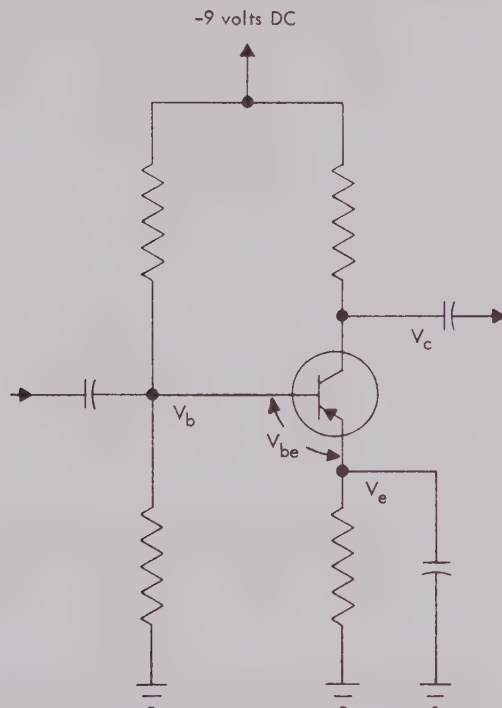

Figure 4-5. Typical Transistor Trouble Shooting Schematic
- a. Check V_c (Figure 4-5). If indication is zero volts, the transistor collector or emitter junction is shorted. If indication is same as collector supply voltage, the emitter or collector junction is open. (Collector of emitter follower, however, will ordinarily be at the supply voltage.)
- b. Check V_{be} (Figure 4-5). If indication is greater than normal, emitter junction is open. If indication is zero volts, the emitter junction is shorted. V_{be} is the difference between base and emitter voltages. ($V_b - V_e = V_{be}$).